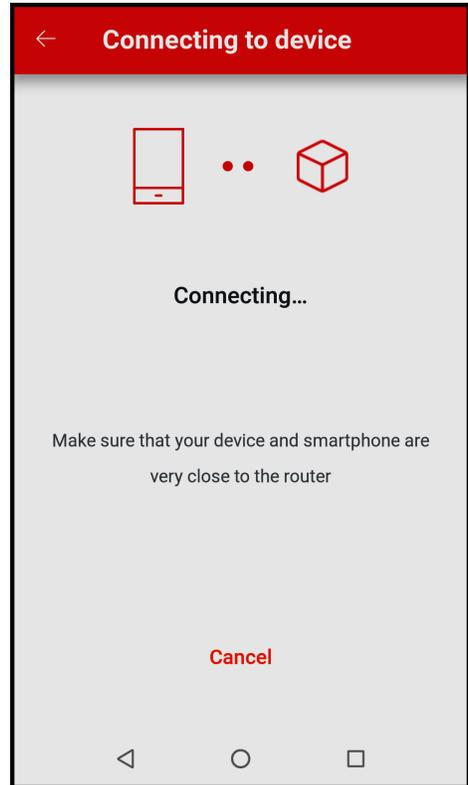
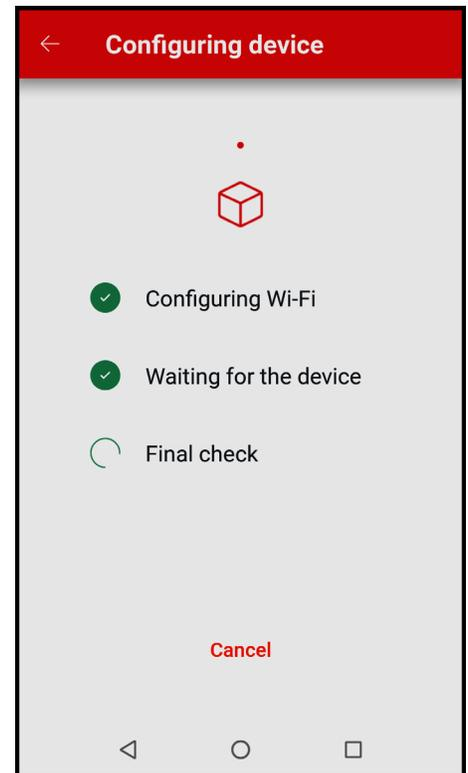

Figure 14. Connecting to Device
Figure 15. Configuring Device
5. After selecting your device, the Raymote mobile app will provide the Wi-Fi network credentials to your unit. See **Figure 14** and **Figure 15**.